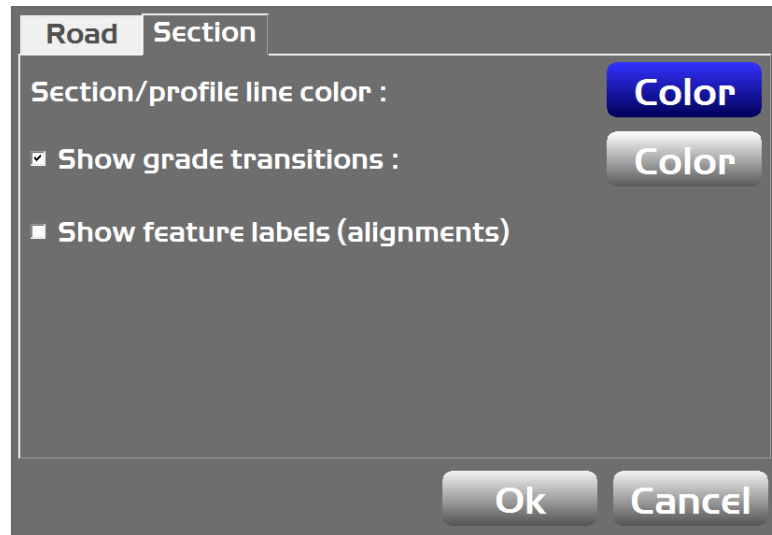

Figure 105: Color Button Displays Selected Color
6. Select a color from the **Color Selection** screen and tap **OK**. The **Road/Section** tab list appears and the color button for selected parameters displays the chosen color (Figure 105).